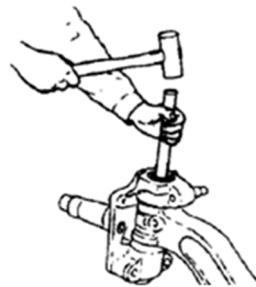

Figure 3-15.
- 7) Removing the shunt articulations and the washers (Figure 3-15& 3-16).